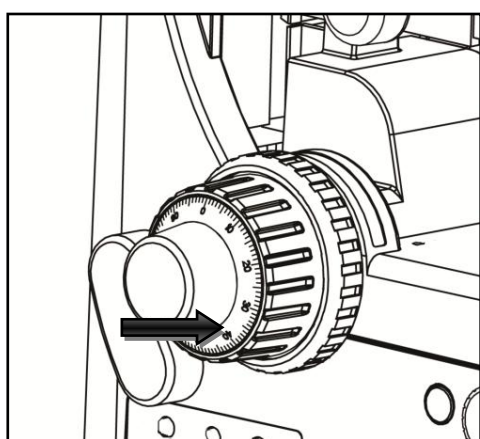
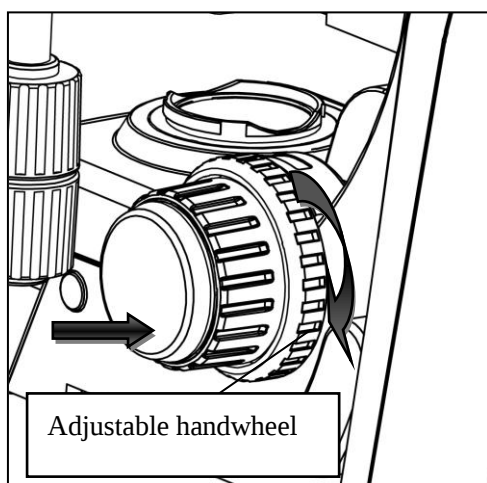

Fig 8
Fig 9
3.7 Focusing(fig8,fig 9)
Focusing Handwheel (fig.9)
Accord the direction indicated by an arrow in figure 8 to adjust the tightness of handwheel. The more rotating, the tighter of the focusing handwheel, otherwise looser.